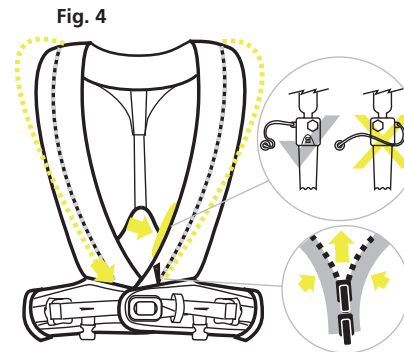

Fig. 4
4. Ensure the cord runs freely from the firing head to the eyelet in the cover. Re-fasten the zipper. If everything conforms to the preceding instructions, your lifejacket is ready for use. Re-run the zip back around the cover to close (Fig.4).